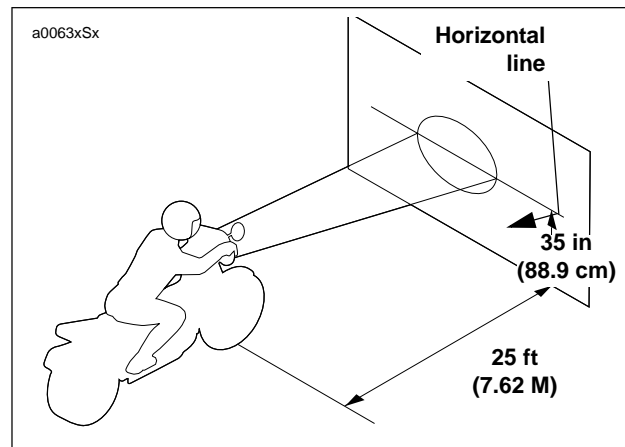

Figure 7-65. Checking Headlamp Alignment
3. See Figure 7-65. Point front of motorcycle toward a screen or wall which is 25 ft (7.62 M) away from front tire contact patch on floor (directly below front axle).